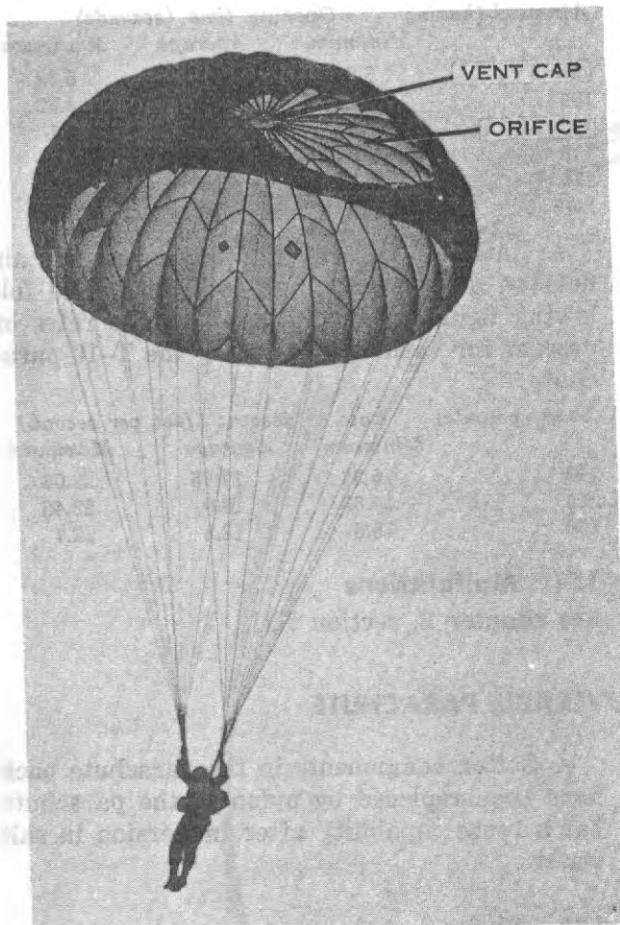

Figure 114. Orifice of maneuverable parachute.
a. Material has been removed from the five gores, near the lower lateral band, to form a 39.46-square-foot oval-shaped orifice (fig. 114). This orifice gives the canopy a maneuvering capability.